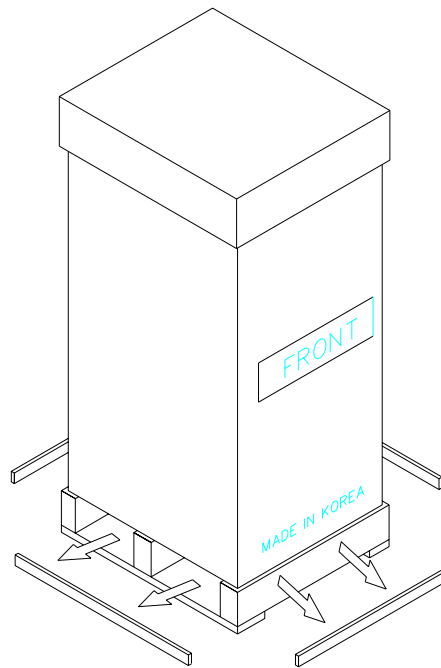

Fig.6.2
2. Use an appropriate tool to remove the nails from the pallet. (See Fig.6.2 below)